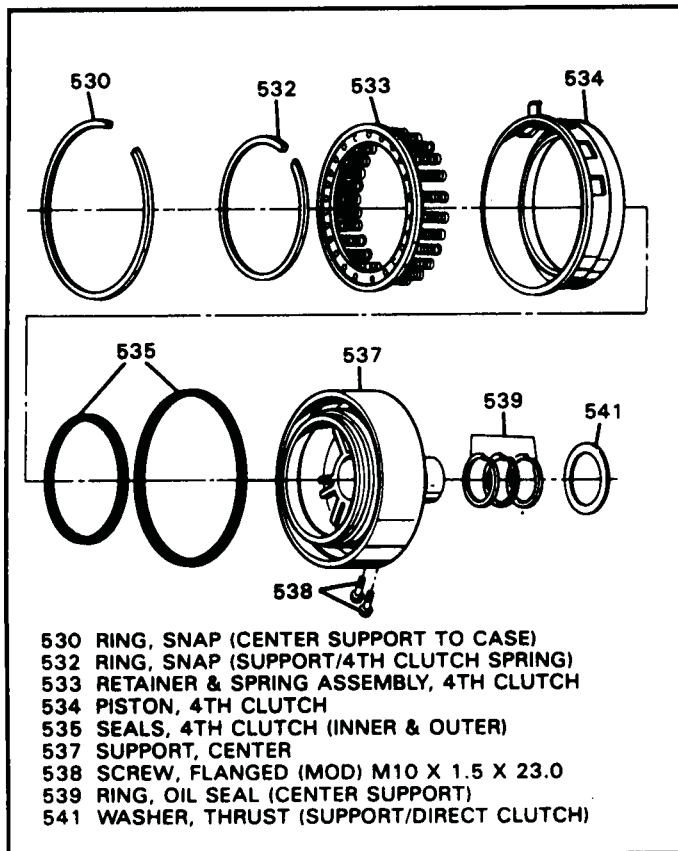

Figure 101
1. Clean and inspect all the parts, that are shown in Figure 101.
5. Install thrust washer (541) as shown Figure 101 and retain with a small amount of "Trans-Jel".
8. Install snap ring (530) into the groove in case on top of the center support, with the beveled side facing up (See Figure 101).